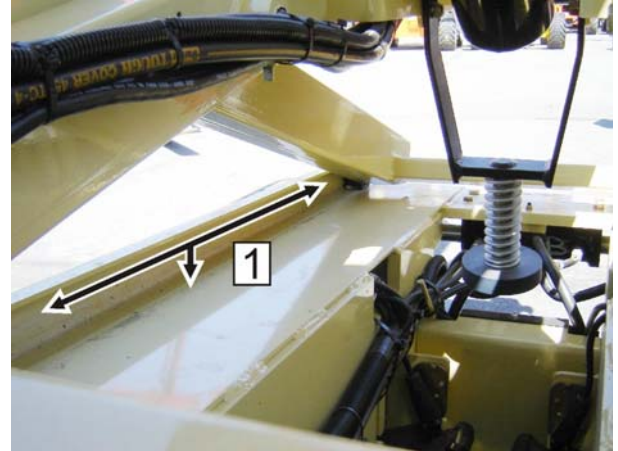

Figure 5-2. Lower Slide Pad Channel
2. Locate the Lower and Upper Slide Pads and remove all dirt and debris from the slide channel area (1, 2). Refer to Figure 5-2., Lower Slide Pad Channel.
3. Apply a layer of grease along the inside and bottom of the lower slide channel (1) on both sides of the machine.